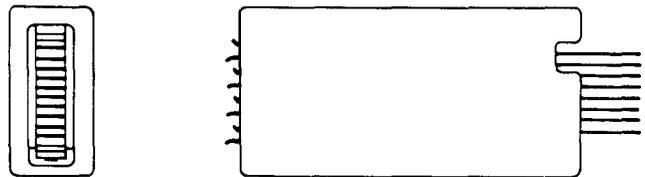

Fig. 4—554-Type Jack
**2.04 554A, B, and C:** These step-by-step type jacks (Fig. 4) are designed to be used on a relay rack-type mounting plate. Each consists of contact springs assembled in a molded housing of insulating material. The terminals are arranged for mechanically wrapped connections. These jacks are used in the ANI-B and ANI-C Trunk Frames, Step-by-Step Systems.